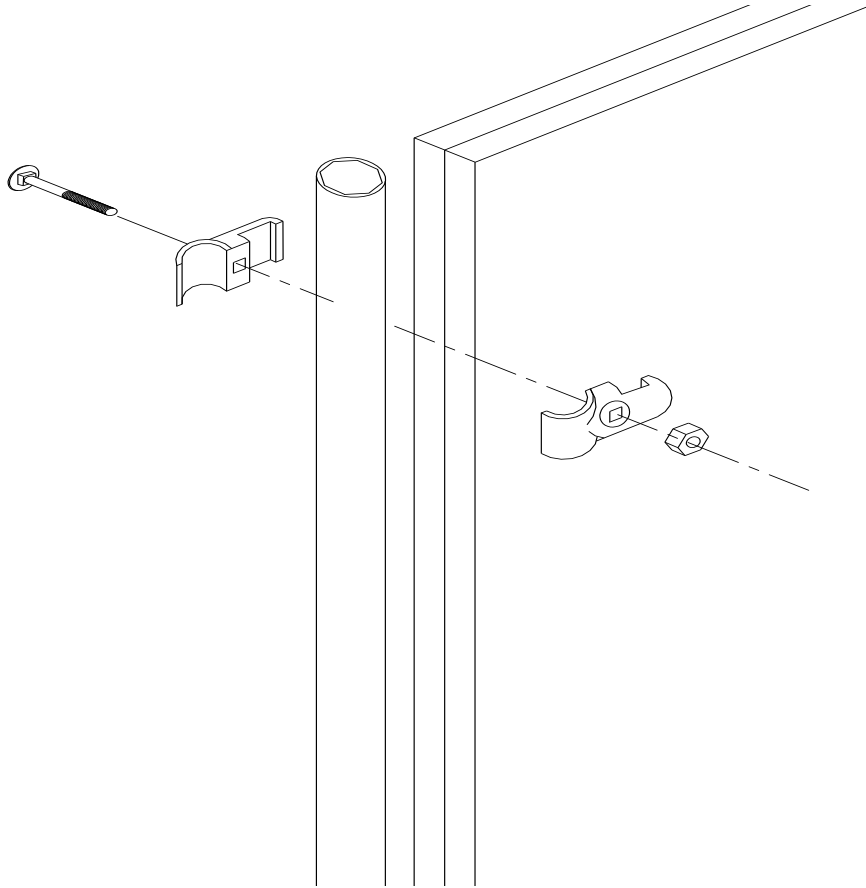

Figure 11
1. Attach the filler pipes to the front end of each division panel with two Square-Round clamps (it takes two halves to make up one clamp) approximately 6" from either end of the filler pipe using the 5/16" x 1-3/4" carriage bolts and 5/16" nuts provided as shown in Figure 11.